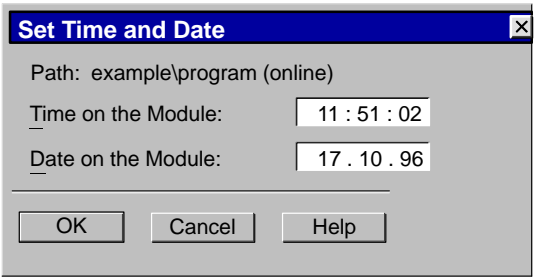

Figure 17-8 Setting the Date and Time for a Module
**Setting the Time and Date**     With the menu command **PLC ► Set Time and Date** in the SIMATIC Manager, the editors, or in the hardware configuration application, you can set the time and the date on the selected module. Enter the required values for date and time in the input boxes shown in Figure 17-8: